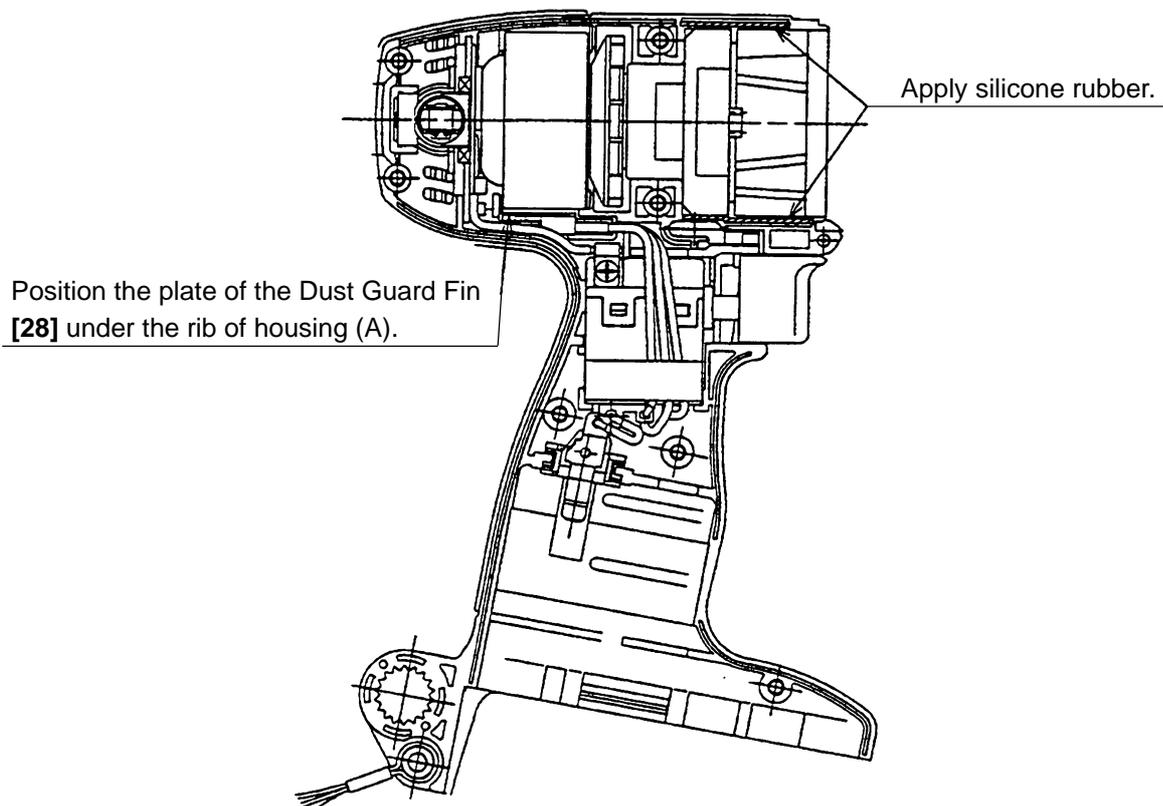

Fig. 14
(c) Mount a unit of the Inner Cover [25] (including the Armature DC 14.4V [26]), Magnet (C) Ass'y [27] (including the Dust Guard Fin [28] and Washer (M) [51]) and Brush Block [29] into Housing (A) [35] (See Fig. 14).
- Position the plate of the Dust Guard Fin [28] under the rib of Housing (A) [35] (See Fig. 14).
(Note) The temperature of the FET may be high if the silicone grease is not applied. Make sure that the three internal wires from the FET are passed above the DC-Speed Control Switch [38] (See Fig. 14).